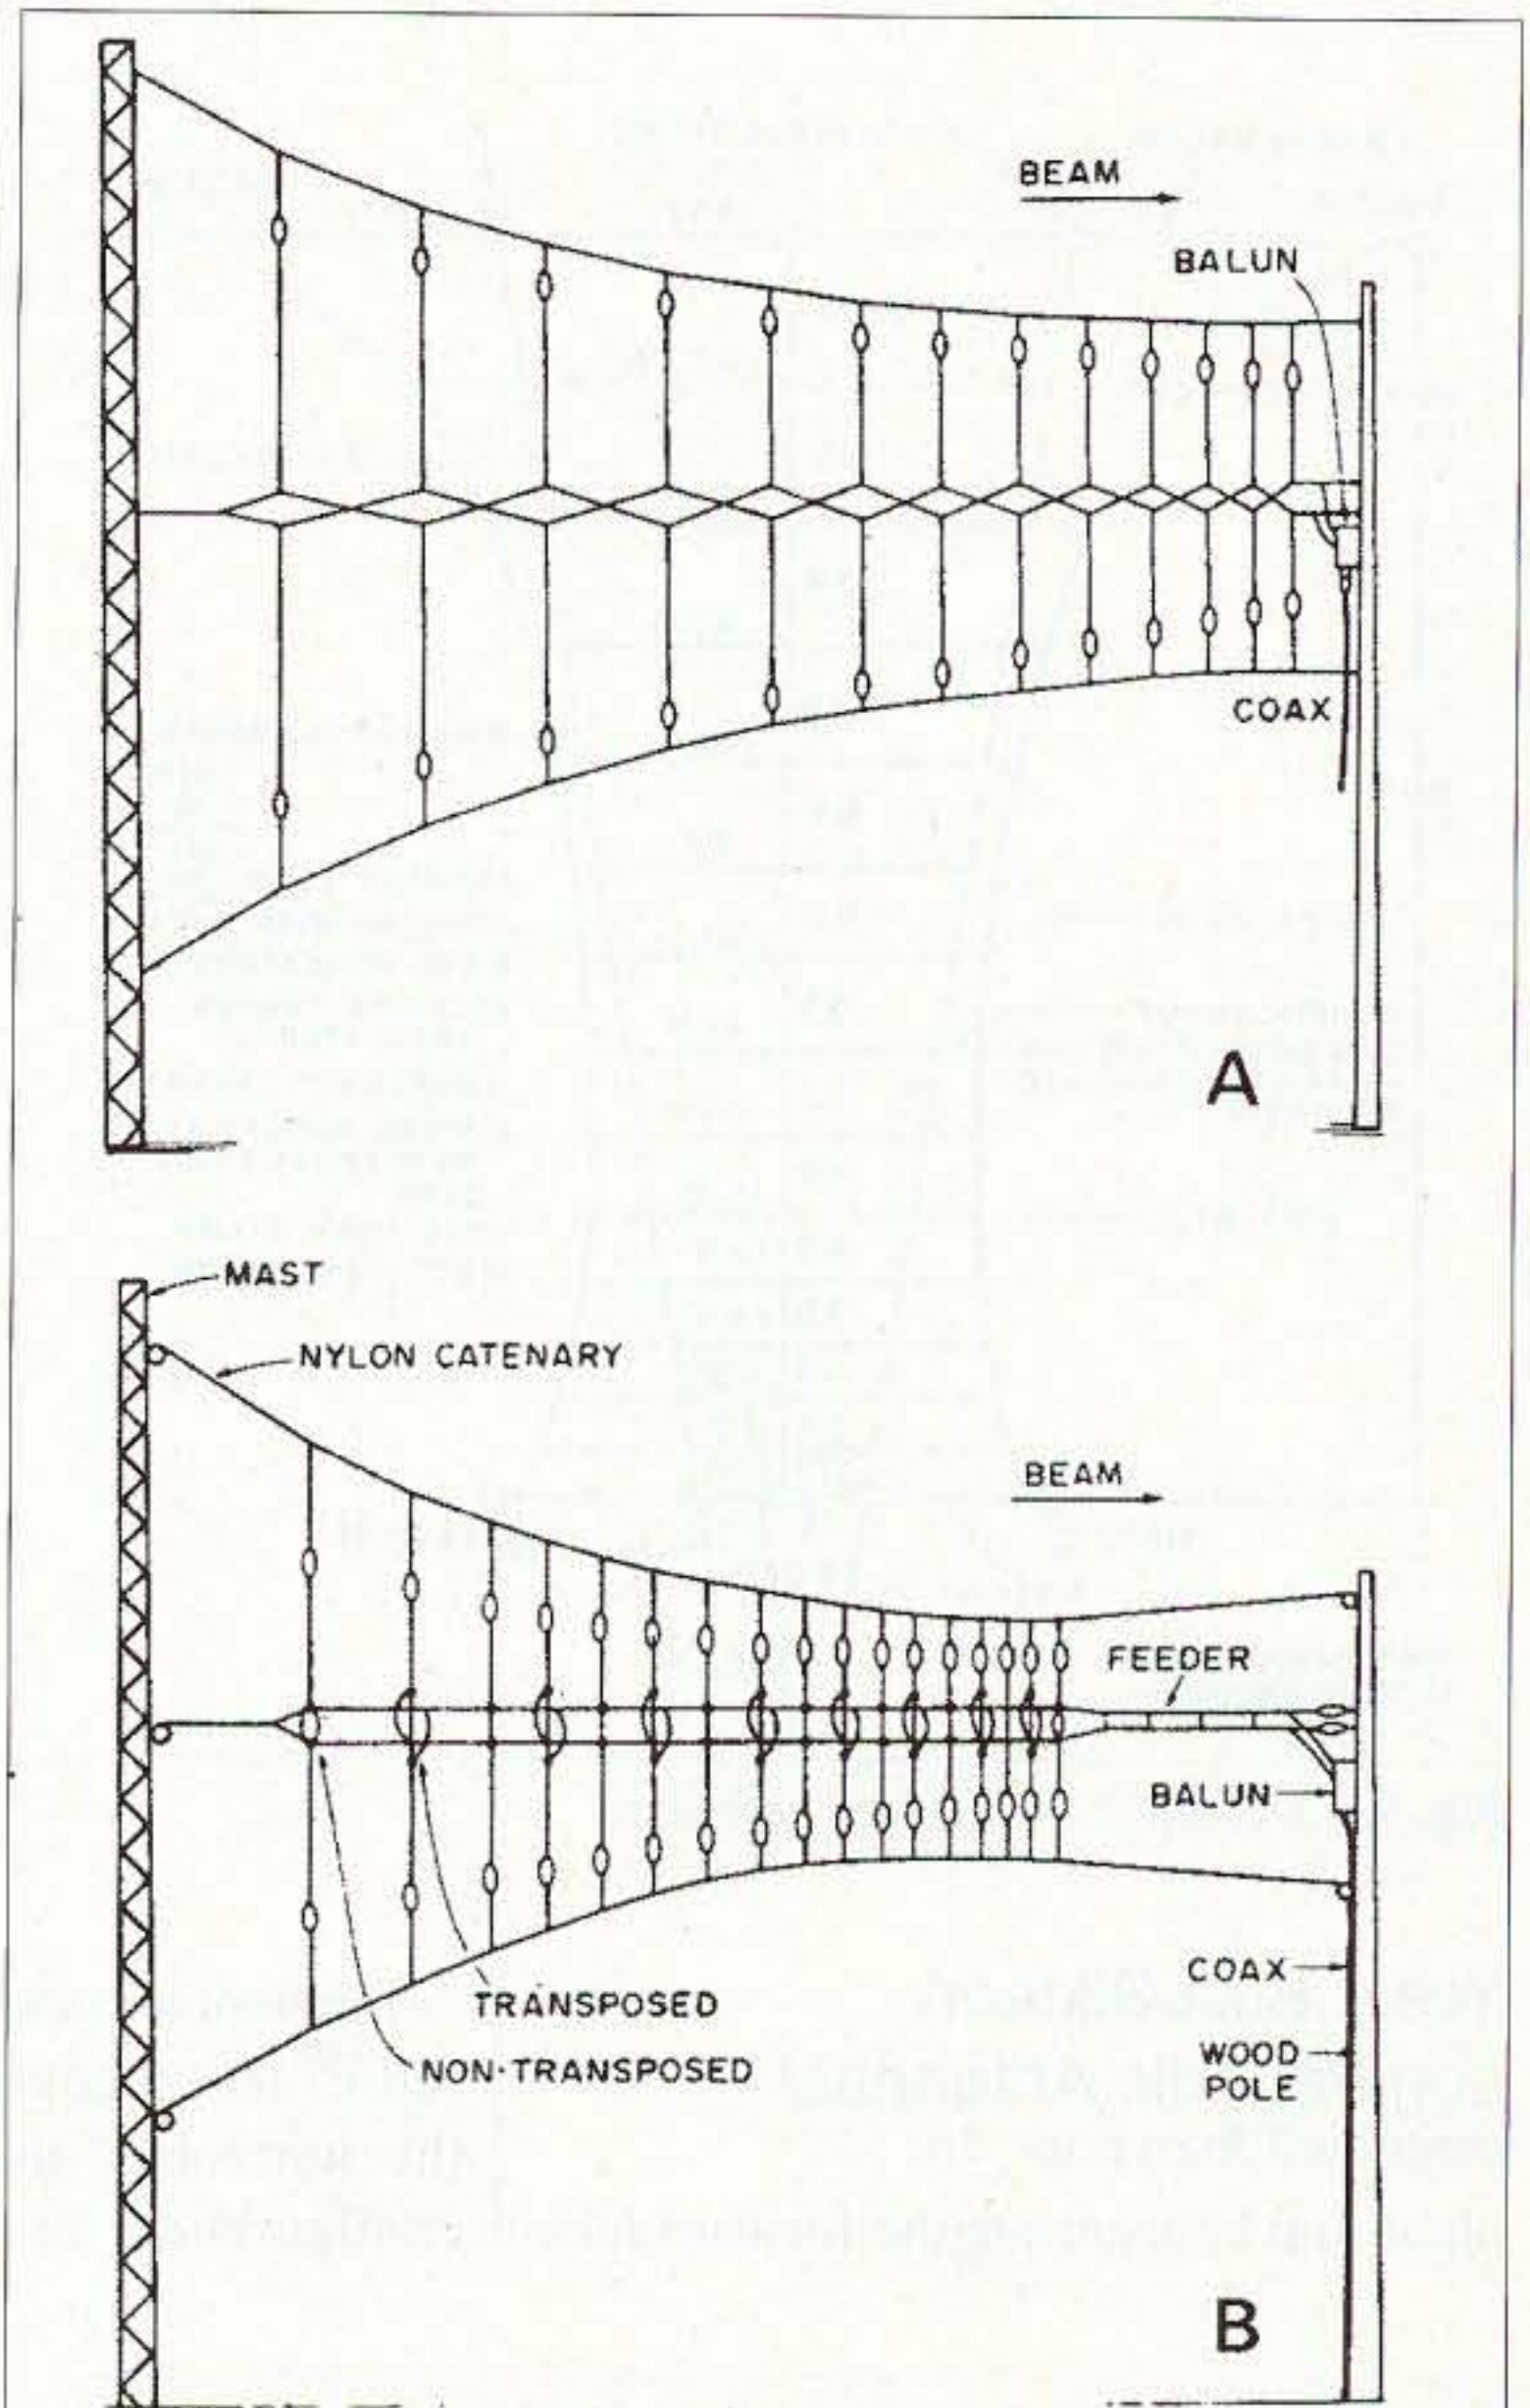

Fig. 7. Vertical dipole log periodic — acreage-saver model.
**Fig. 7** illustrates an "acreage-saver," using a DLP on edge in the vertical plane. This only requires one high and one lower mast and little width.